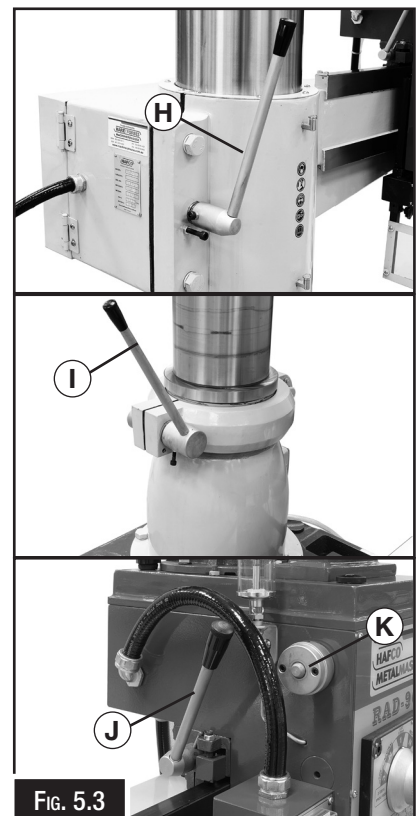

Fig. 5.3
- H. Radial Arm Clamp:** Clamps the radial arm after the arm has been raised or lowered. (Fig. 5.3)
Note: The Motor Head clamp must be released before it can be moved along the radial arm. (J in Fig: 5.3)
- O. Manual Spindle Down Feed:** When button “K” in Fig. 5.3 is released the auto feed to the spindle does not work when handles “N” are pushed away from the operator.